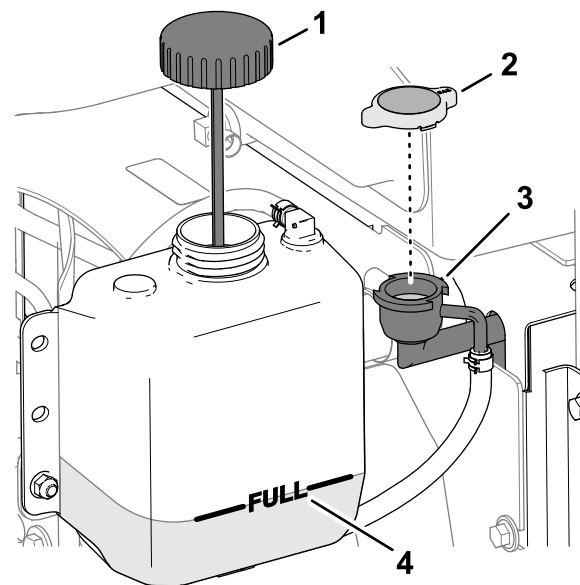

Figure 155
3. Carefully remove the radiator cap (Figure 155).
Note: The coolant level is correct if it is to the top of the filler neck of the radiator (Figure 155).